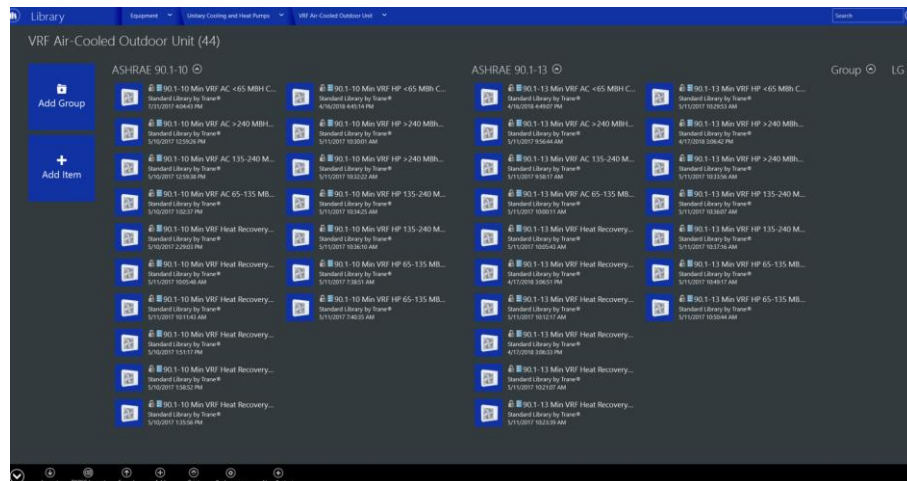

Figure 22: Standard Library - VRF Air-Cooled Outdoor Unit
3. In the TRACE 3D Plus Data Directory, lists of the Standard Library are categorized by group as shown in Figure 22.